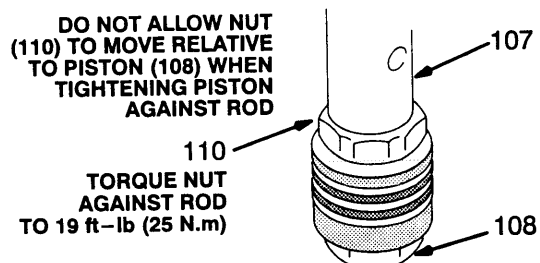

Fig 22-3
6. Hand tighten the valve into the piston rod just until the nut (110) contacts the rod. See Fig 22-3.
8. **CAREFULLY** tighten the nut (110) against the piston rod to 19 ft-lb (25 N.m). See Fig 22-3.